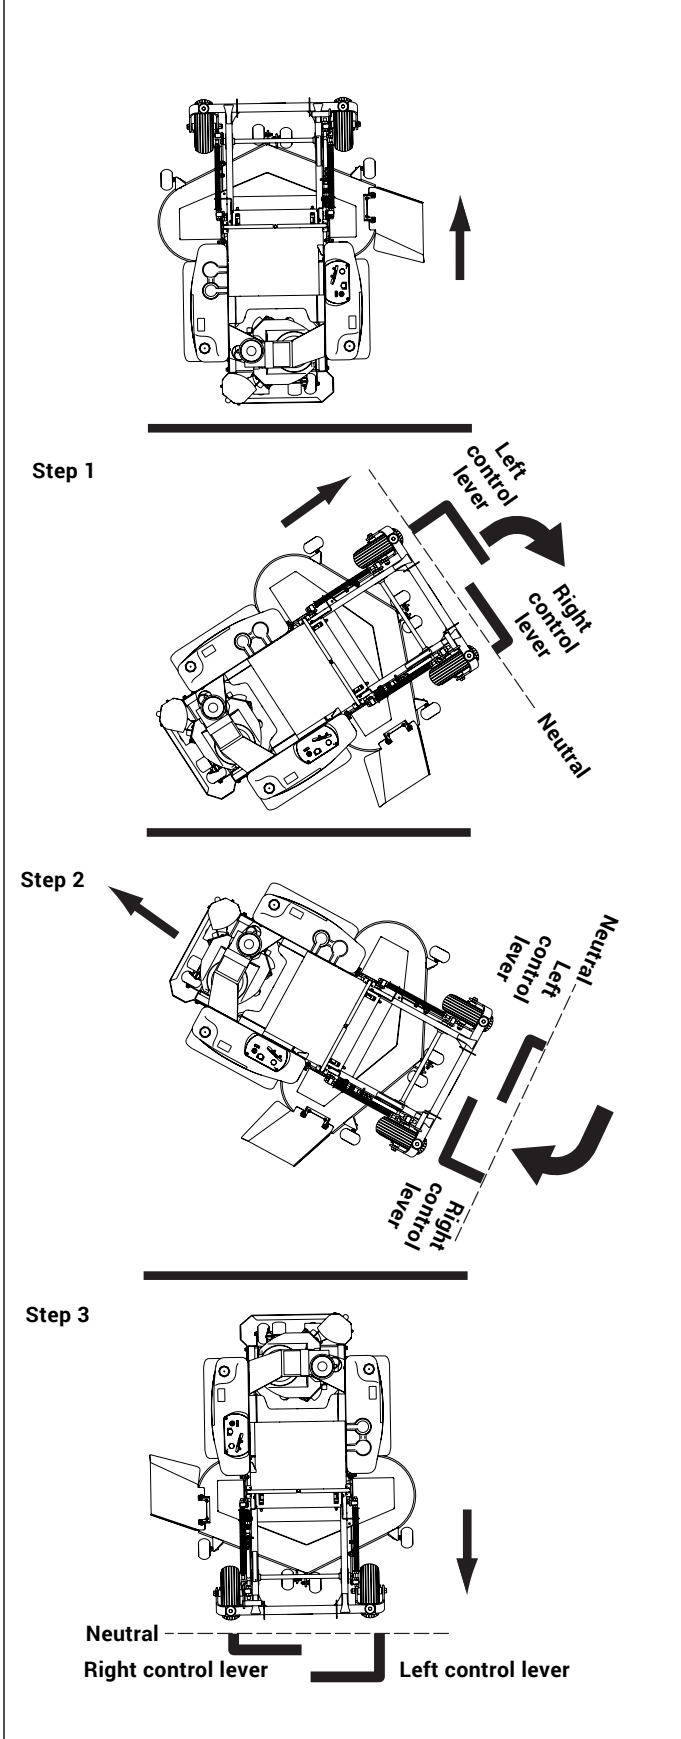

Figure 3-11
1. Move the left steering control lever farther forward from neutral than the right steering control lever and start the turn. Figure 3-11
2. Next, pull back on the steering control levers until they pass neutral and the machine starts to go rearward. Figure 3-11
3. Pull the right steering control lever farther rearward from neutral than the left steering control lever until the rear of the machine pivots around. Figure 3-11
4. Then, push the steering control levers forward until they both pass neutral and the machine starts to go forward. Figure 3-11
5. Push the left steering control lever farther forward than the right steering control lever and finish the turn. Figure 3-11